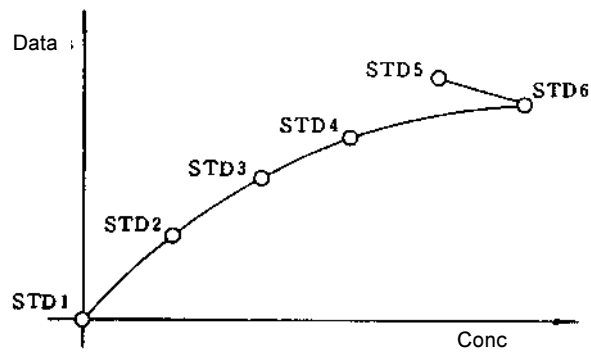
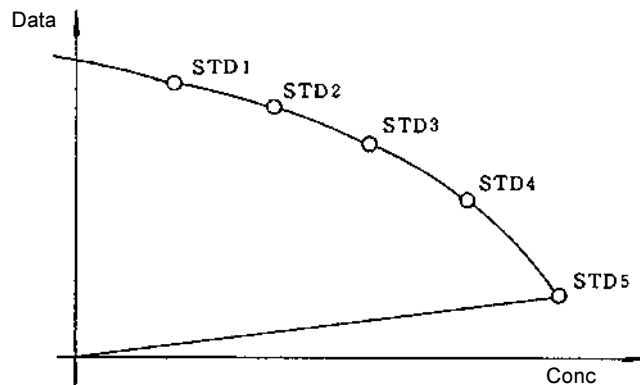

Fig. A-2 Example of Curve without Monotonic Increase (unsuitable curve)
Fig. A-3 Example of Negative-going Curve where Measured Value of Blank is Small (unsuitable curve)
- (1) A correct calibration curve can be created only when the measured value increases or decreases monotonically versus the concentration value. Especially when the inclination is negative-going, be sure to measure a blank having a data value larger than the other standards. A curve not showing a monotonic increase will appear as in Fig. A-2. And when the data value of the blank is small, regardless of a negative-going inclination, the curve will appear as in Fig. A-3.